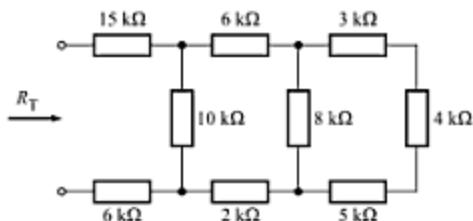

Fig. A-90
- A-53. Find the total resistance  $R_T$  of the resistor ladder network shown in Fig. A-90. [Ans.  $26.6\ k\Omega$ ]